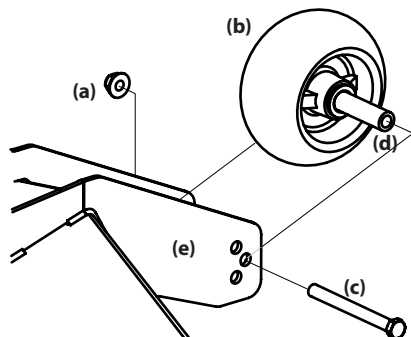

Figure 4-12
2. Remove the lock nut (a) securing one of the front gauge wheel (b) to the deck. Remove the front gauge wheel (b), hex screw (c) and spacer (d). See Figure 4-12.